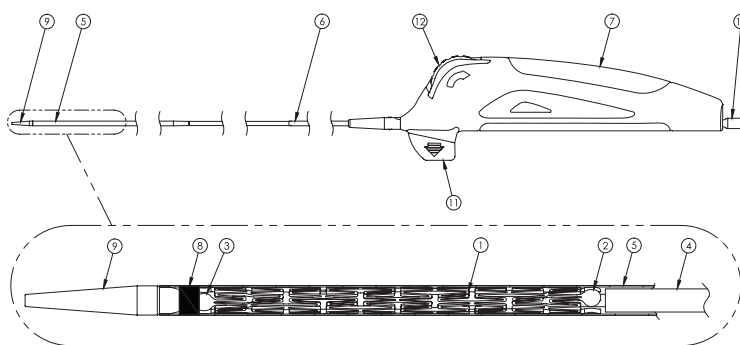

Figure 1. Abre™ venous self-expanding stent
- The Abre™ self-expanding stent, as shown in Figure 1, is cut from a nickel titanium alloy (nitinol) tube in an open lattice design (1), with integral nitinol markers at the trailing end (2) and the leading end (3) of the stent. Upon deployment, the Abre stent exerts an outward force to establish patency.
- The Abre™ delivery system, as shown in Figure 1, has a triaxial shaft design, comprised of an inner shaft assembly (4), a retractable sheath (silver, 5), an isolation sheath (blue, 6), and an ergonomic handle (7). The inner shaft assembly terminates with a flexible catheter tip (9) and originates at the luer hub (10). The deployment handle (7) has a removable locking pin (11), thumbwheel (12), and luer hub (10).
- The radiopaque markers, at the trailing end and the leading end of the stent, guide stent positioning at the target lesion before Abre stent deployment. There is a single luer hub on the deployment handle. A thumbwheel on the deployment handle rotates to pull back the retractable sheath (silver). A locking pin prevents the stent from being deployed before use, and must be removed to actuate the thumbwheel. The Abre stent is fully deployed when the radiopaque marker (8) in the retractable sheath (silver) reaches beyond the integral nitinol markers on the trailing end of the stent. A uniquely designed isolation sheath (blue, attached to the deployment handle) improves control and accuracy of stent delivery.